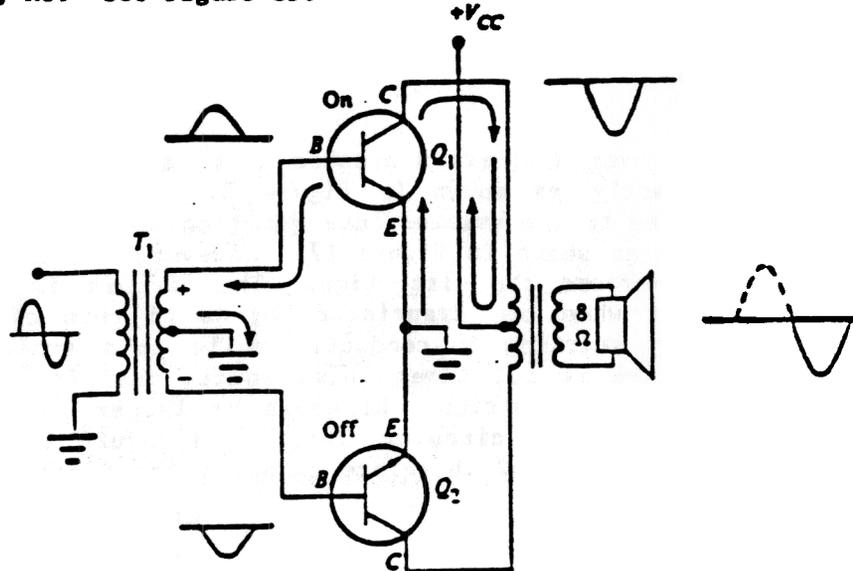

Fig 15
-During the second half of the cycle, the polarity of T_1 reverses and the base of Q_1 is driven positive, causing Q_1 to conduct, while the base of Q_2 is driven further into cutoff. The collector current of Q_1 flows through T_2 which inverts the phase and delivers the second half of the cycle to the load, R_L . See figure 15.